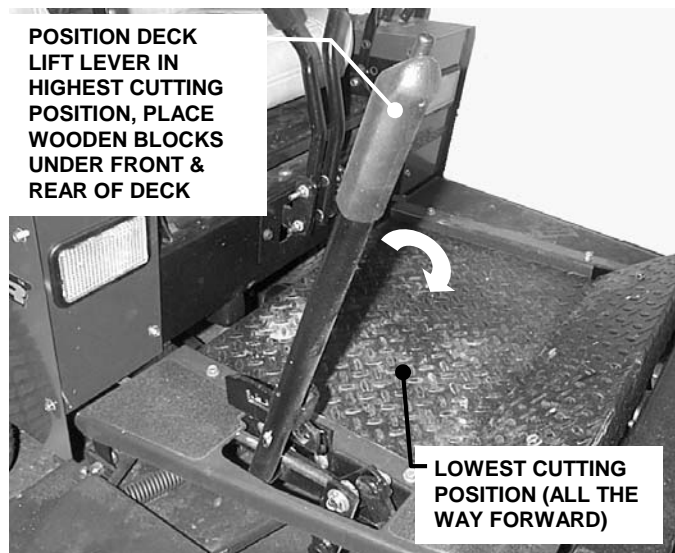

FIGURE 3.9
1. Move deck lift lever and set the mower deck to the highest cutting position. See Figure 3.9.
3. Move deck lift lever and set the mower deck to a lower cutting position until deck rests on wooden blocks. See Figure 3.9.